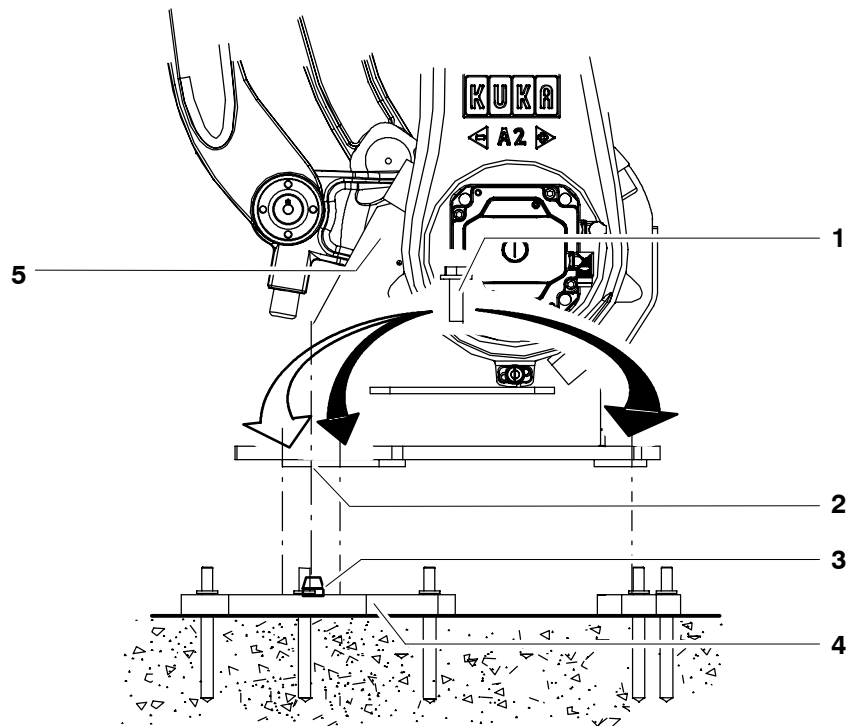

Fig. 45 Installing the robot on the floor
- (4) Lower the manipulator (Fig. 45/5) vertically onto bedplates (4) or steel structure. If lifting tackle is used, particular care must be taken to ensure exact vertical positioning in order to avoid damaging the pins (3) during this operation.